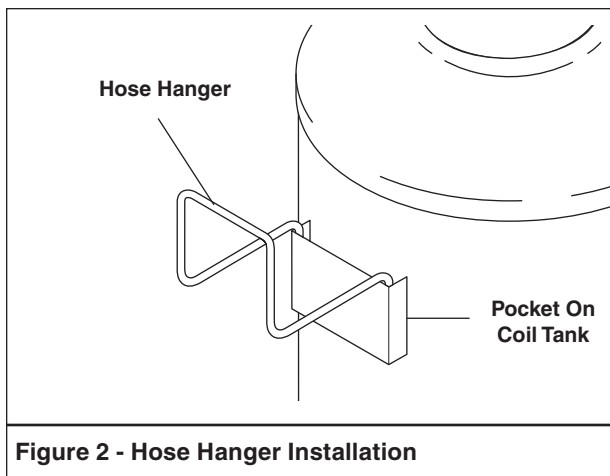

Figure 2 - Hose Hanger Installation
1. Install the hose hanger as shown in **Figure 2**.